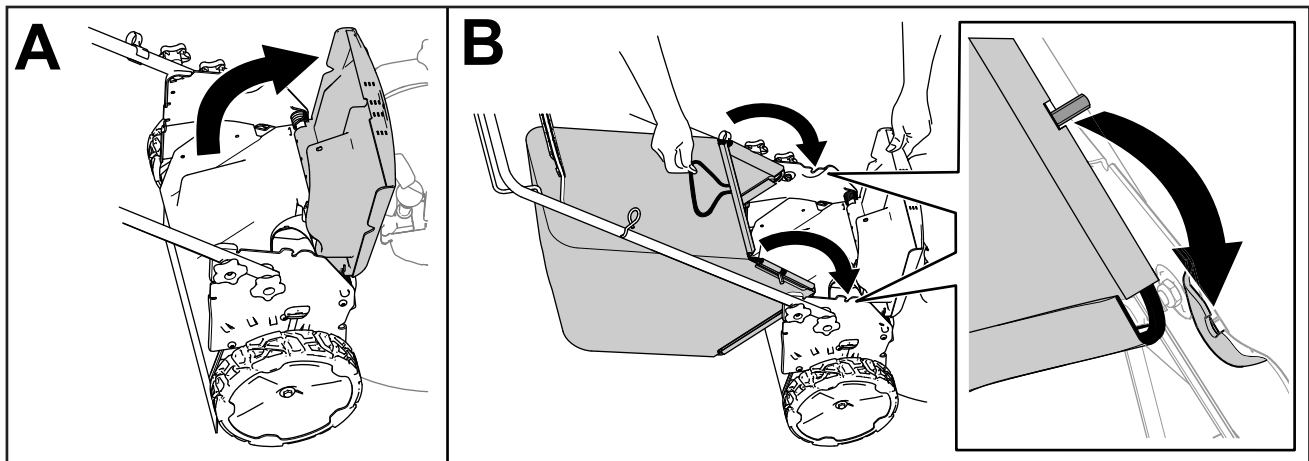

Figure 12
1. Lift up the rear deflector (A of Figure 12).
2. Insert the rod ends of the grass bag into the notches in the handle brackets (B of Figure 12).